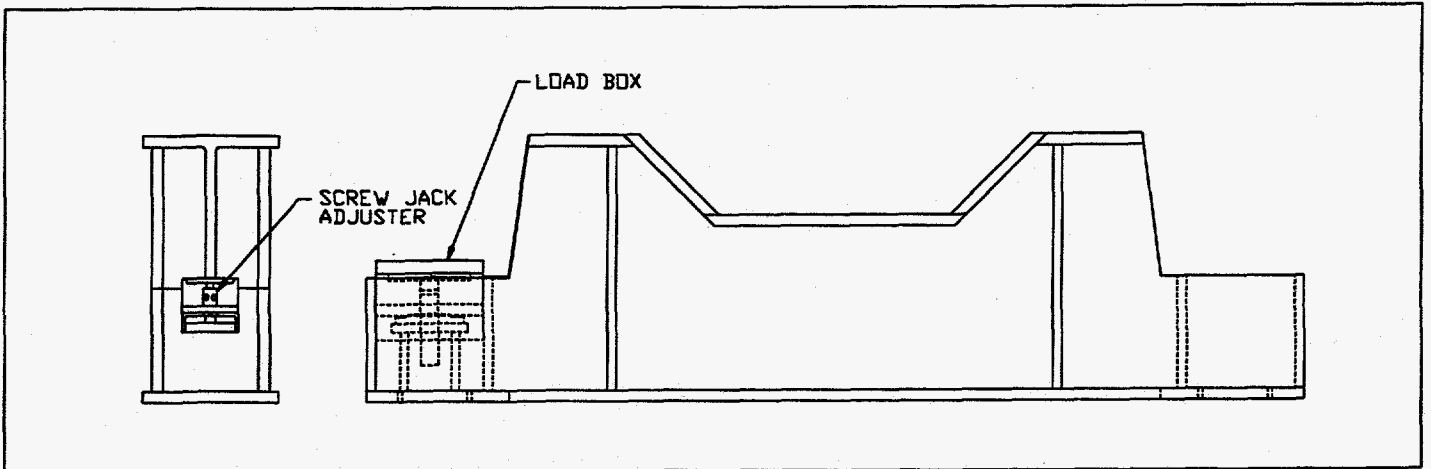

FIGURE 14, MIDSPAN SUPPORT
- 2 Turn the screw jack adjuster until the load box firmly seats against the strongback (Figure 14, page 27).